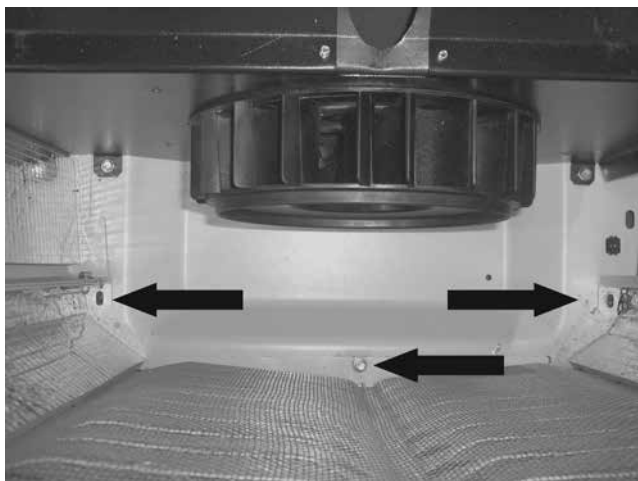

Figure 257.
6. **Remove Left-side enclosure:** Using a 10 mm ratchet wrench remove the horizontal 10 mm bolt that connects the side panel to the back panel. Using a 10 mm socket, remove three bolts from the base of the enclosure. See Figure 257. Using a 10 mm socket and wrench remove the top hinge bolt and loosen the bottom bolt. See Figure 258. Holding the roof, remove the bottom hinge bolt, remove the side panel by sliding it forward then re-install the hinge bolt.